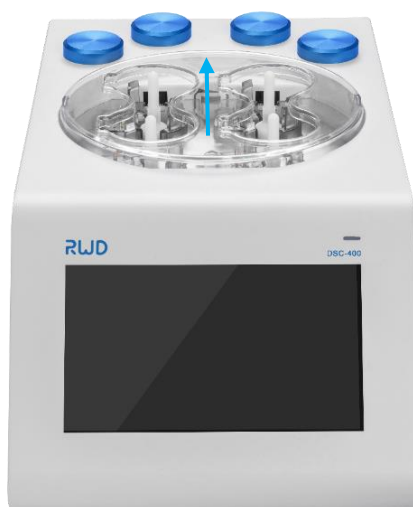

Figure 7-1
- Lift the shield upward to remove it, as shown in Figure 7-1.